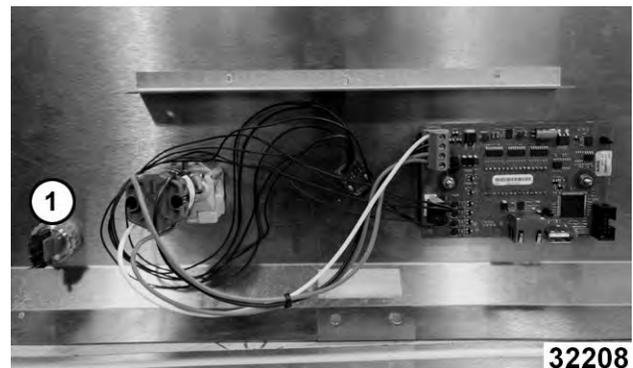

Fig. 11
2. Disconnect water fill button (1, Fig. 11) control wires.